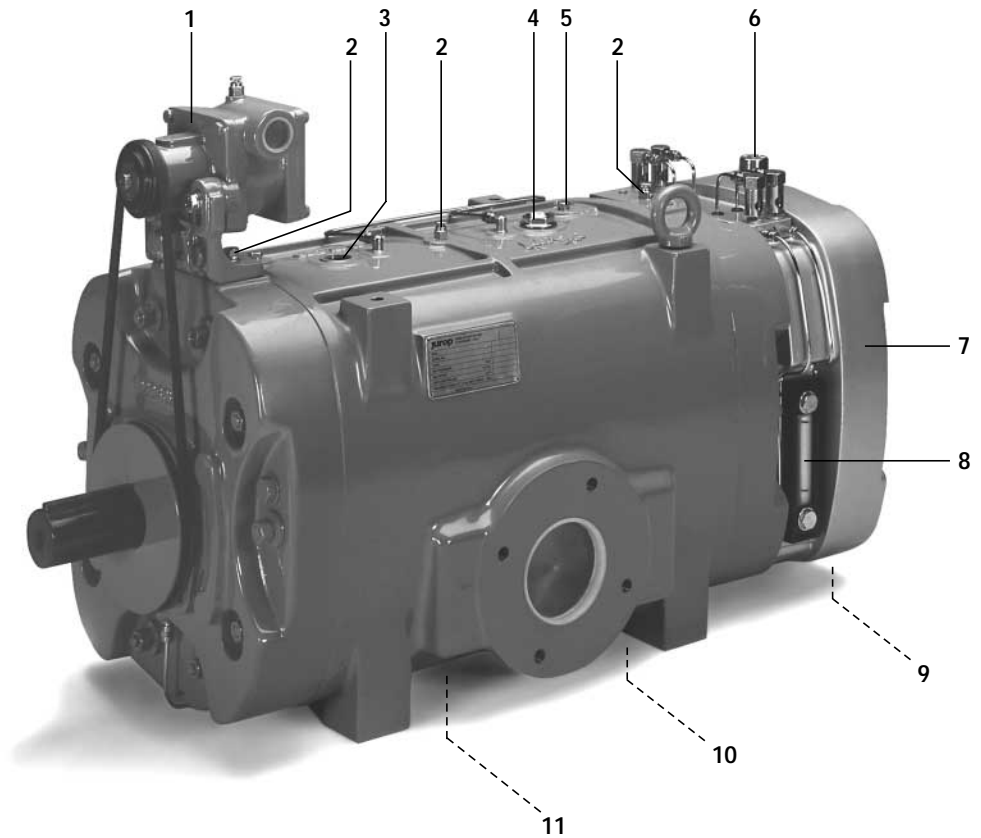

Fig. 4
3.1 Fill the oil tank up to about 3 cm. below the filling tap - Pos. 6 - Fig. 4.
3.2 After releasing the vent taps Pos. 2 - Fig. 4 overfill the pump housing with the cooling media through the tap of Pos. 4 - Fig. 4.
- Screw of the filling and draining taps of Pos. 1-3 - Fig. 4.
Unscrew the plug Pos. 5 -Fig. 4 and insert a rod of dia. 6 mm. and turn the shaft by hand. With the checking rod touching the outside diameter of the rotor, mark it a first time with a scriber (The rod is supplied with the pump).
- a) Drain the cooling liquid from the pump housing (Pos. 11 - Fig. 4).
- h) Assemble all the parts taking care to lubricate all the gaskets (pos. 47-48) and the bearing. Align the flange by the steady pins (pos. 92) supplied with the pump.
- i) Tighten the nuts pos. 78 by means of a dynamometric wrench adjusted at 88 Nm and pull out the N° 2 steady pins.
- l) Refill the cooling system as shown at Pag. 10 - Paragraph 3.2 and re-install the pipeline pos. 27.